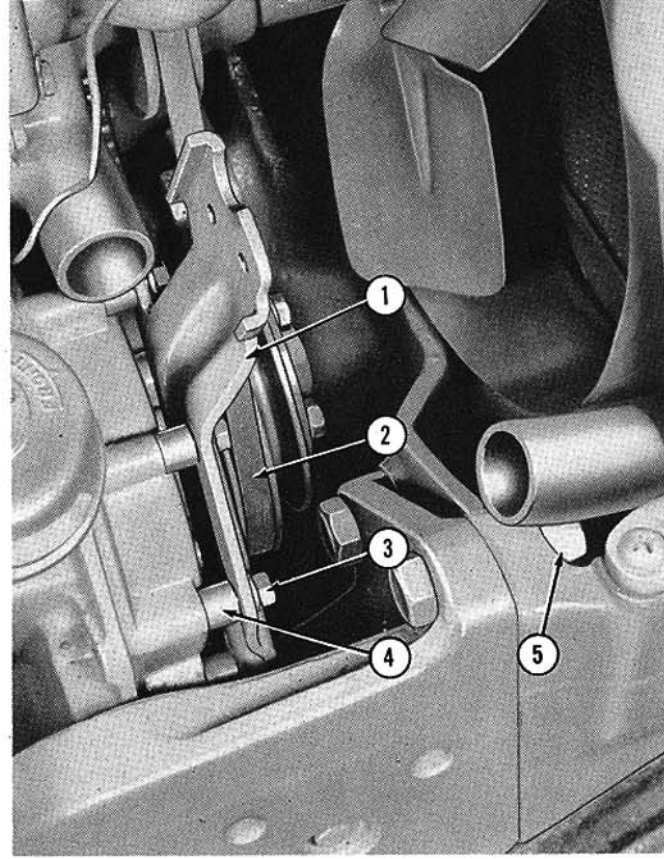

Figure 2
- b. Return the pedestal to side rails and install the six nuts (5), Figure 2, previously removed. Tighten the bolts securely.
- d. Install the fan belt (2), Figure 2, as shown on larger sheave of the new pulley and adjust to proper tension at the generator bracket. Tighten the bracket capscrew securely.
- a. Attach the lower pump support (1), Figure 2, to the timing gear cover as shown, using four $\frac{5}{16}$ -18 x $2\frac{1}{2}$ " hex head bolts (3), and four $\frac{1}{2}$ " spacers (4), provided.